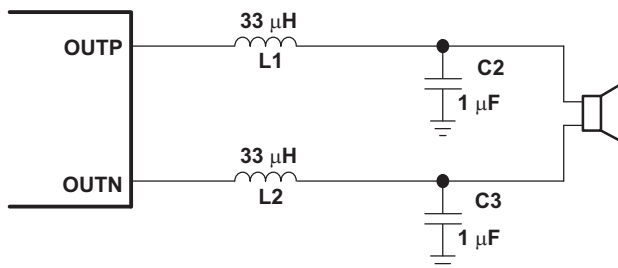
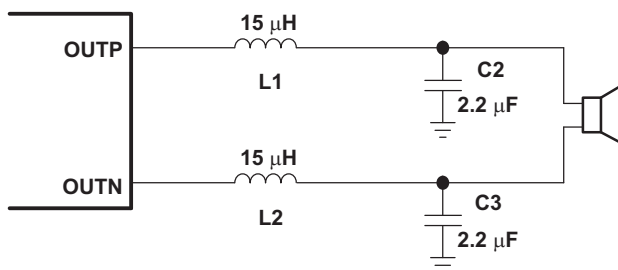

Figure 27. Typical LC Output Filter, Cutoff Frequency of 28 kHz, Speaker Impedance = 8 Ω
Figure 28. Typical LC Output Filter, Cutoff Frequency of 28 kHz, Speaker Impedance = 4 Ω
Using the LC filter in Figure 27, the TPA3101D2 EVM passed the FCC Part 15 Class B radiated emissions test with 21 inch speaker wires. Quasi-peak measurements were taken for the 4 standard test configurations, and the TPA3101D2 EVM passed with at least 14-dB margin. A plot of the peak measurement for the horizontal rear configuration is shown in Figure 30.
- Output filter—The ferrite EMI filter (Figure 29) should be placed as close to the output terminals as possible for the best EMI performance. The LC filter (Figure 27 and Figure 28) should be placed close to the outputs. The capacitors used in both the ferrite and LC filters should be grounded to power ground. If both filters are used, the LC filter should be placed first, following the outputs.